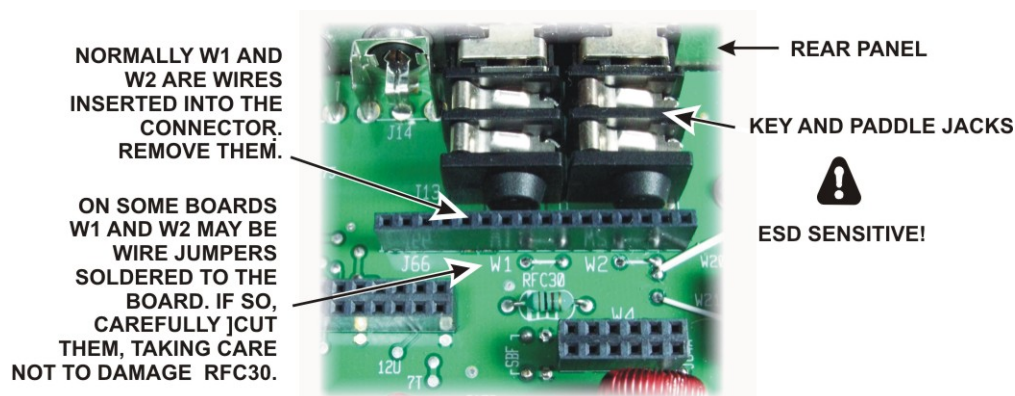

Figure 7. Removing Jumpers W1 and W2.
- ☐ Remove jumpers W1 and W2. The jumpers may be wires plugged into connector J66, or they may be wire jumpers soldered to pads on the RF board (see Figure 7). If soldered to the board, take care not to lose any pieces of wire inside the K3. No more than 1/8" (3mm) of lead length should be left to avoid the possibility of shorting to a nearby circuit. **Take care to identify the correct jumpers. Do not cut nearby jumpers W20 or W21!**